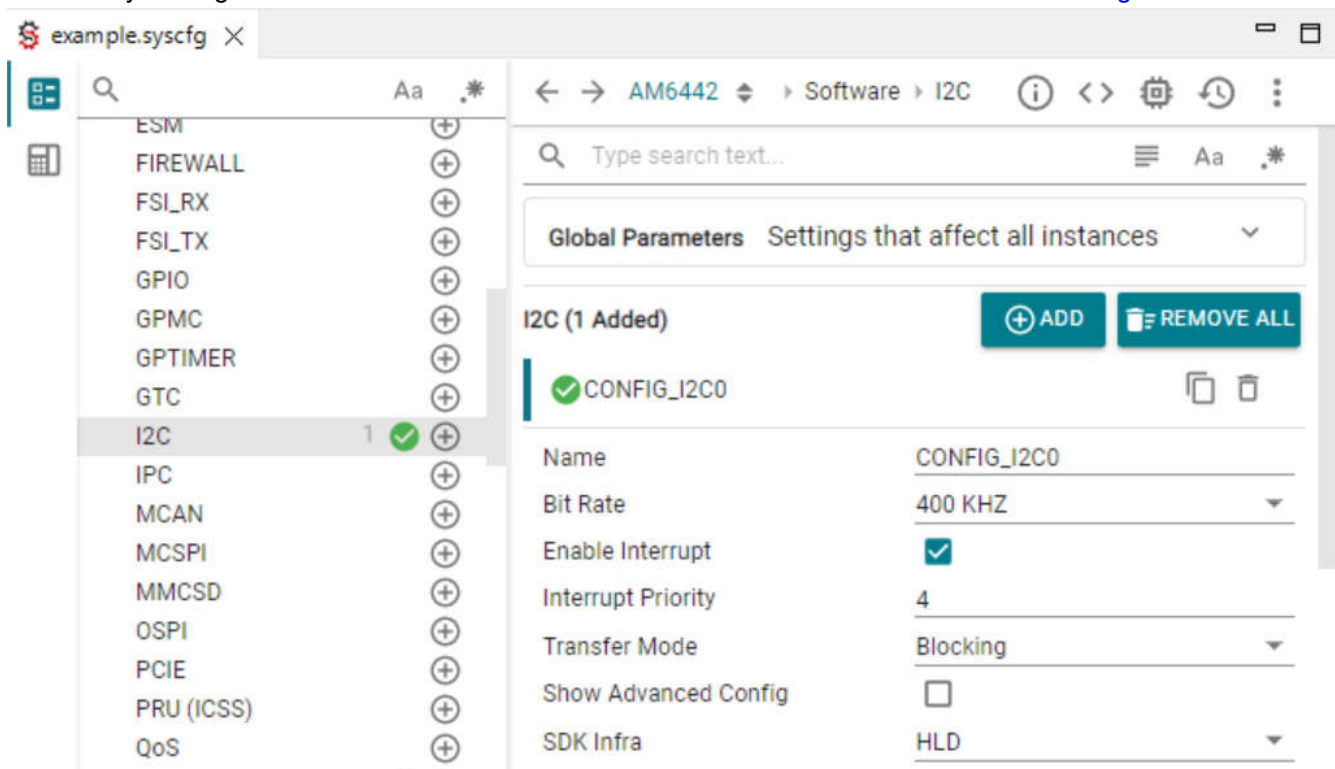

Figure 3-3. Sysconfig CCS GUI View
- The SysConfig GUI must be launched inside CCS and looks similar to the one shown in Figure 3-3.